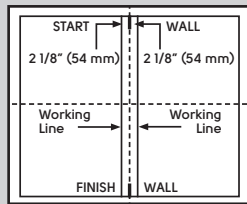

Fig. 2
2. Measure 2 1/8" (54 mm) from the left and right of the center mark at both ends of the room and strike a chalk line (Fig 2).